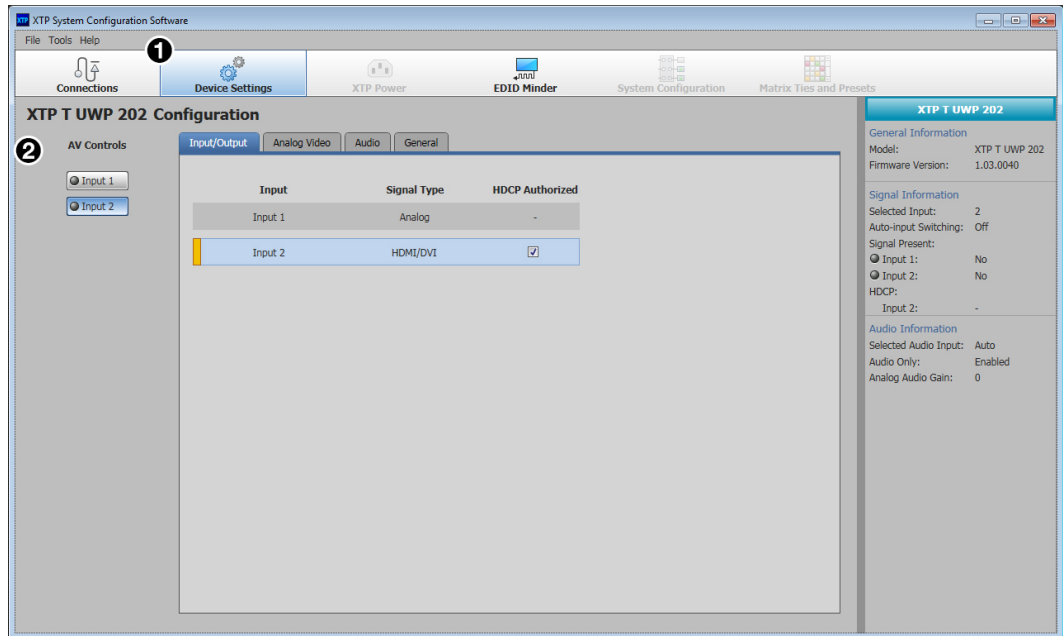

Figure 30. Transmitter Device Settings Screen
The **Device Settings** screen allows a user to view and edit various device settings for the device directly connected to the PC running the XTP software. Click the **Device Settings** button (see figure 30, ❶) on the **Global Navigation** bar to open the **Device Settings** screen.